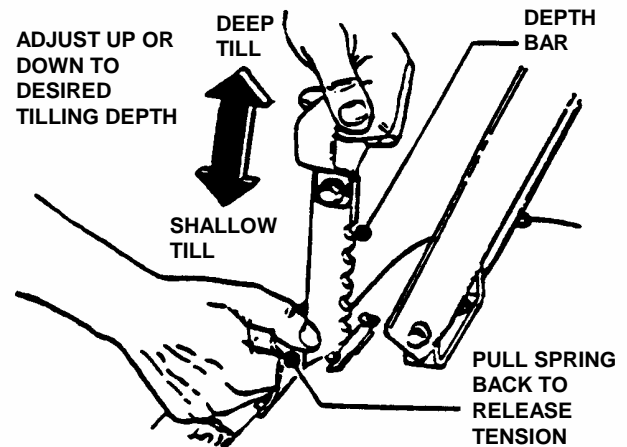

FIGURE 7
2.6.1 FORWARD/REVERSE: To transport the Tiller to a new tilling site using its own power, raise the tines to clear lawn and paved surfaces to prevent gouging. Release the WHEEL and TINE CONTROL BAIL and lift the rear of the Tiller to take the weight off the DEPTH BAR (see Figure 7), then push the DEPTH BAR downward into notch setting that allows the tines to clear the ground surface. Place the WHEEL and TINE SHIFT LEVER in FWD or REV. Pull the WHEEL and TINE CONTROL BAIL back against the handlebar to engage the wheel drive and transport the unit.
STEP 2: Set DEPTH BAR to desired position. Highest position is deepest depth. See Figure 7.